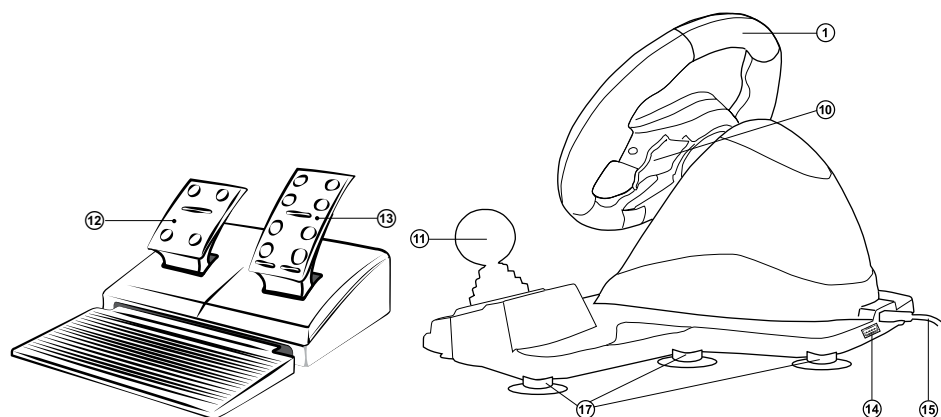

Fig. 2. Rear view
- Connect the pedal unit to the device (Fig. 2) using the cable built into the unit to the connector, and then connect the device itself with a USB cable to a free USB port on the computer.